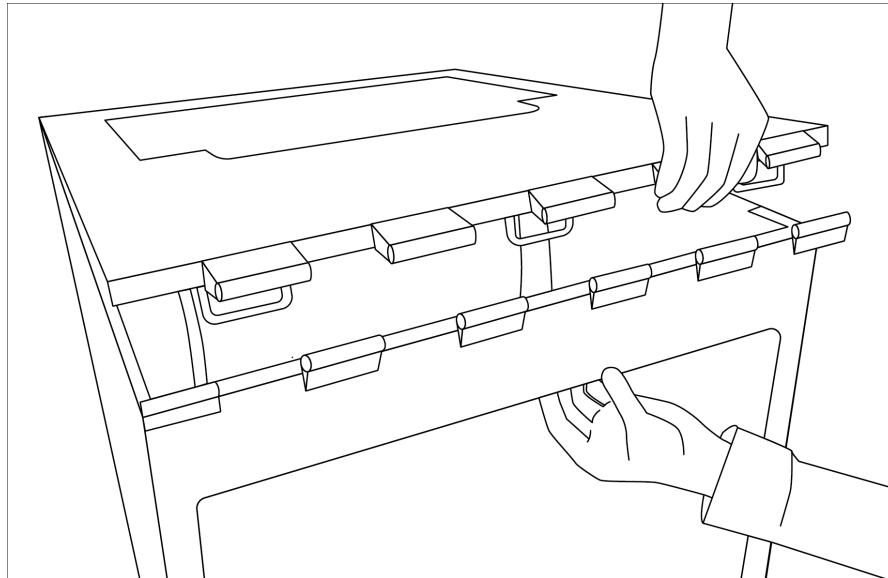

Figure 3-12. Lowering the lid of the ballot box into place
- d. Lower the lid back into place (Figure 3-12).